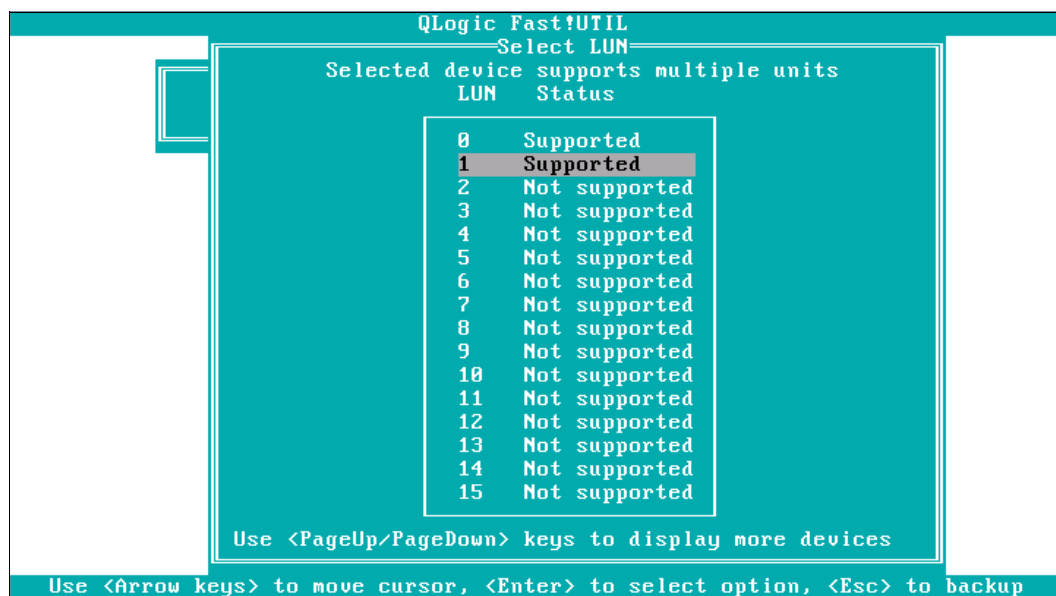

Figure 4-8 QLogic configuration panel: Select LUN
10. From the *Select LUN* panel in Figure 4-8, select **LUN 1** and then press Enter.